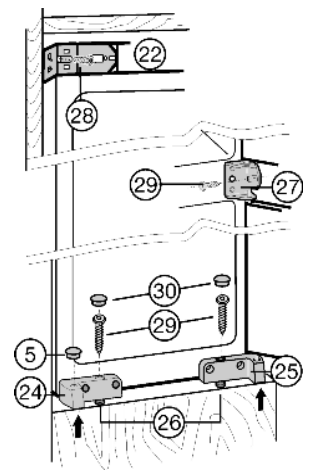

Fig. 15
- ▶ Fix the appliance at the top: press the appliance against the wall of the unit and fix with particle board screw Fig. 15 (28) through fastening bracket Fig. 15 (22).
- ▶ Fix appliance in the middle: through fastening screw Fig. 15 (27) with particle board screw Fig. 15 (29).
- ▶ Fix appliance at the bottom: with particle board screws Fig. 15 (29) through adjusting screws Fig. 15 (26) in the bearing support Fig. 15 (24) and bearing support Fig. 15 (25).